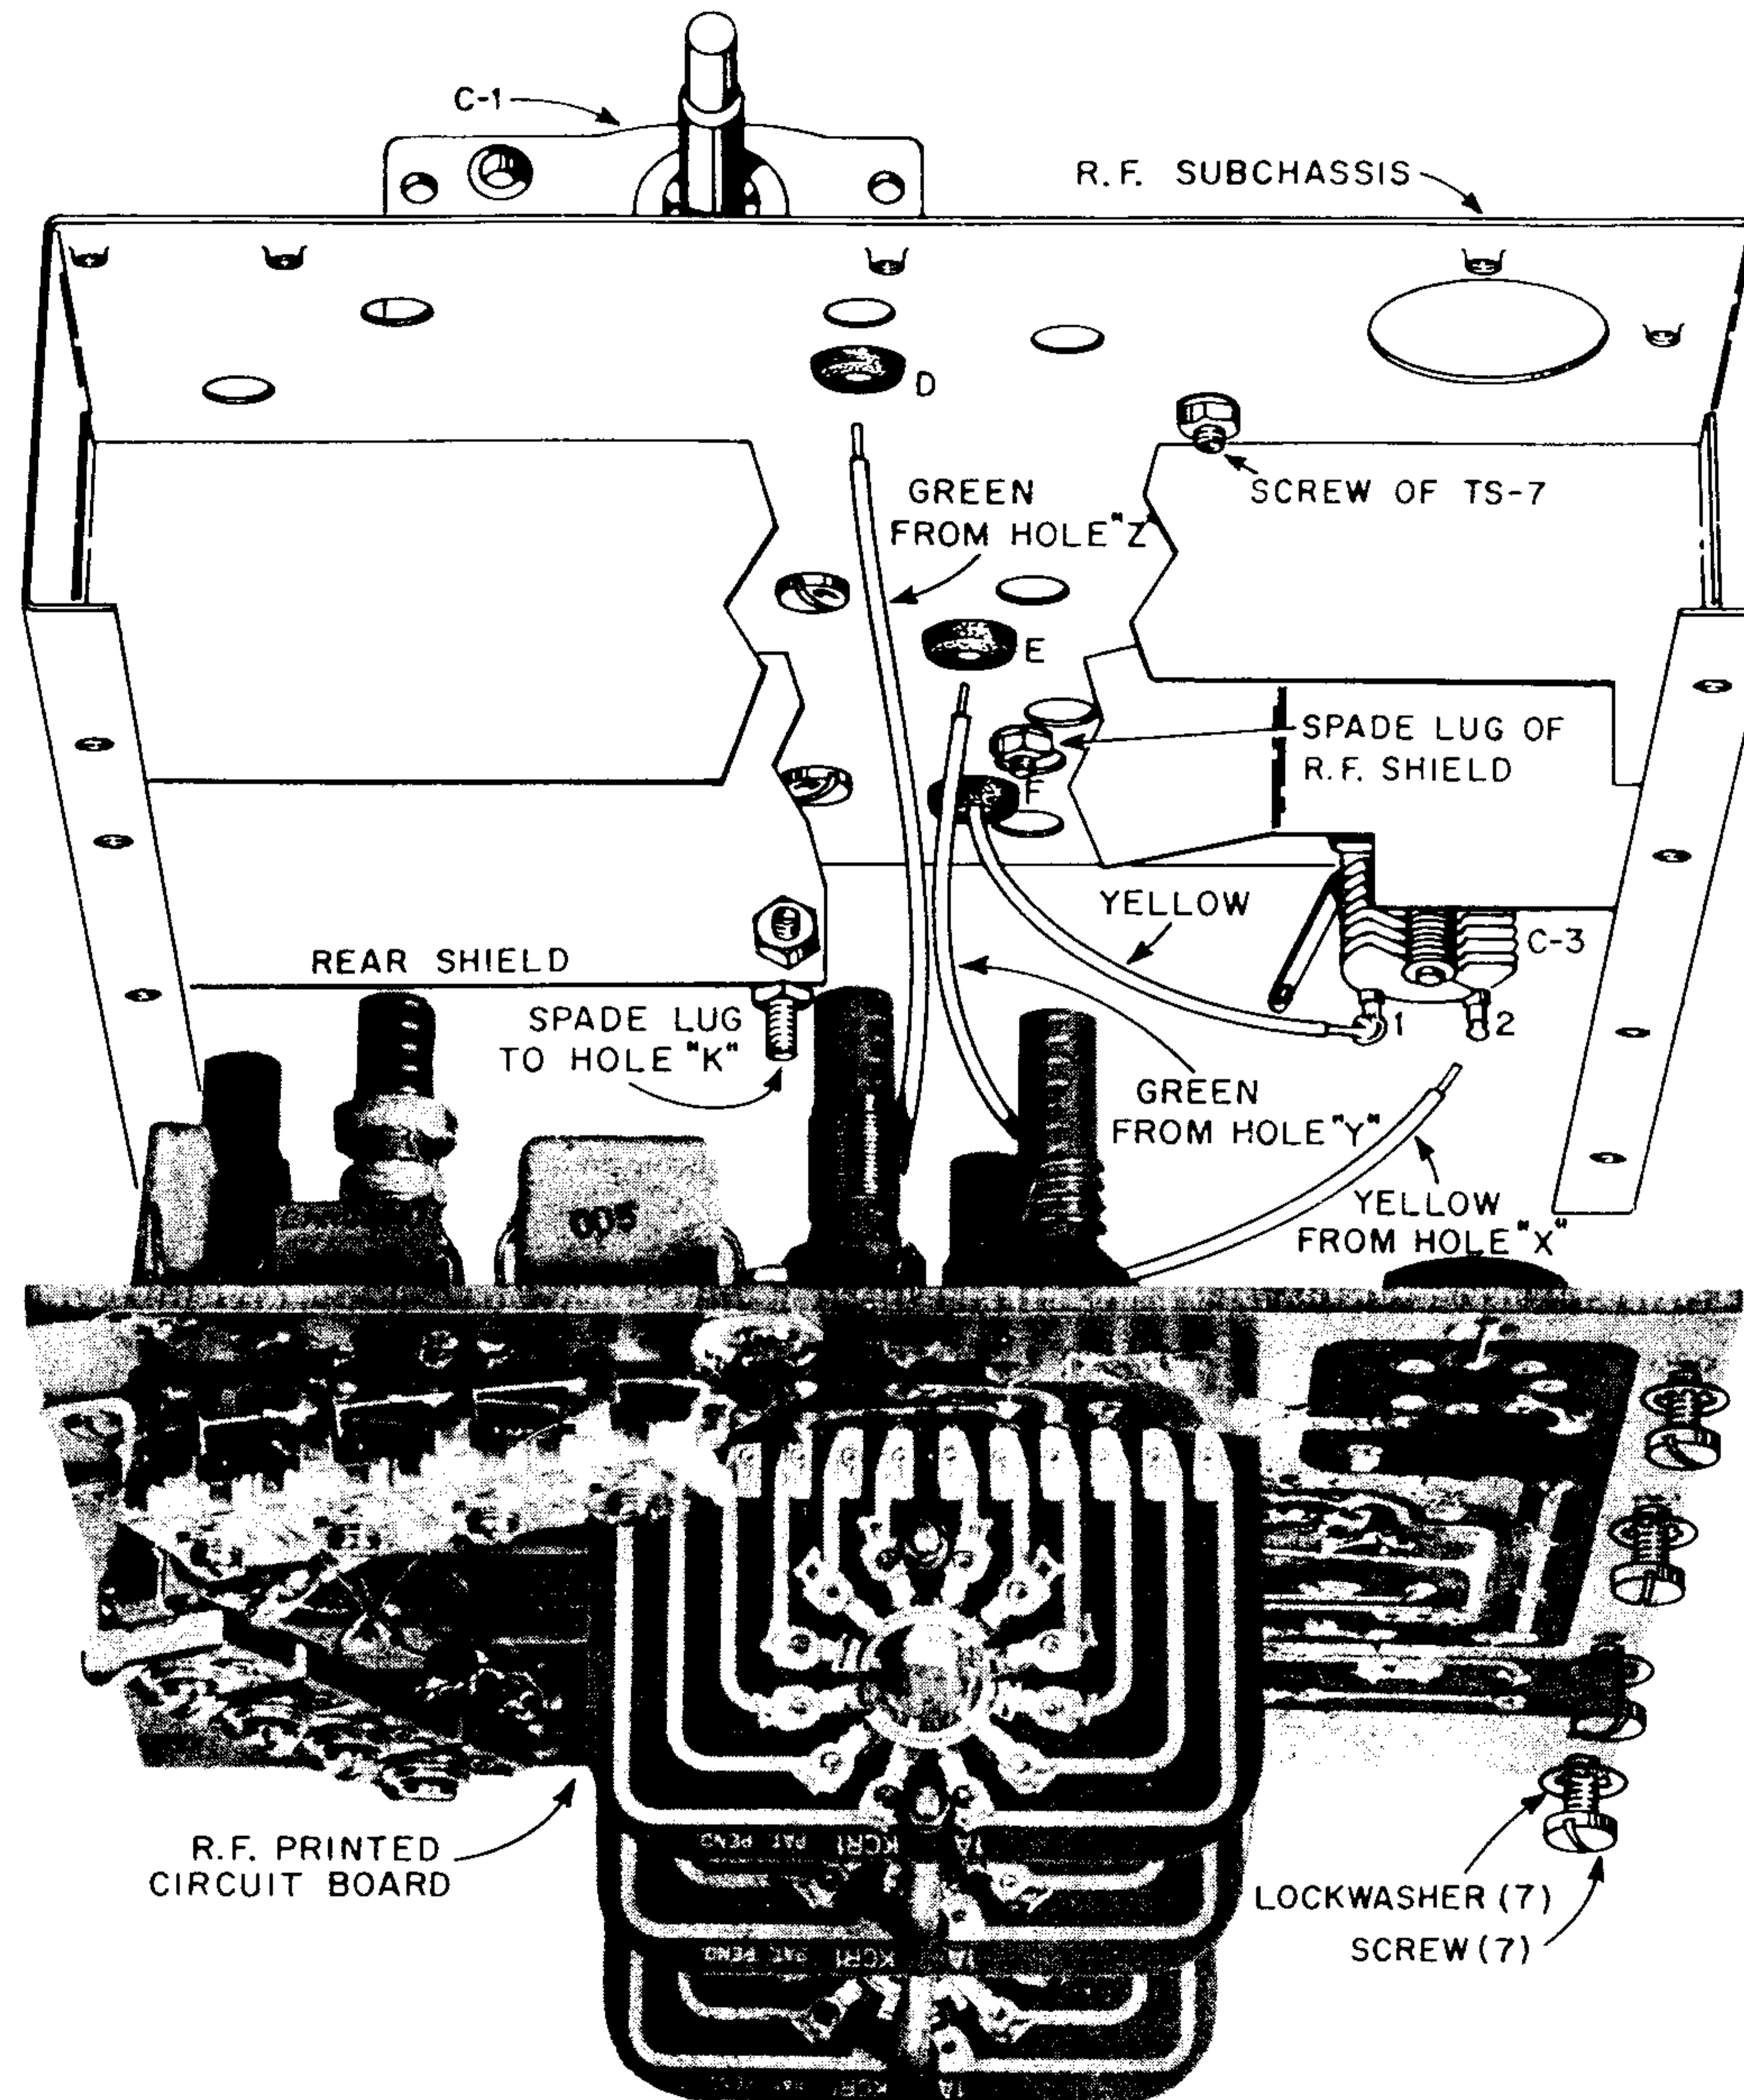

FIGURE 19. MOUNTING THE RF SUBCHASSIS
SEE FIGURE 19.
- Position the RF printed circuit board and the RF subchassis as shown in Figure 19.